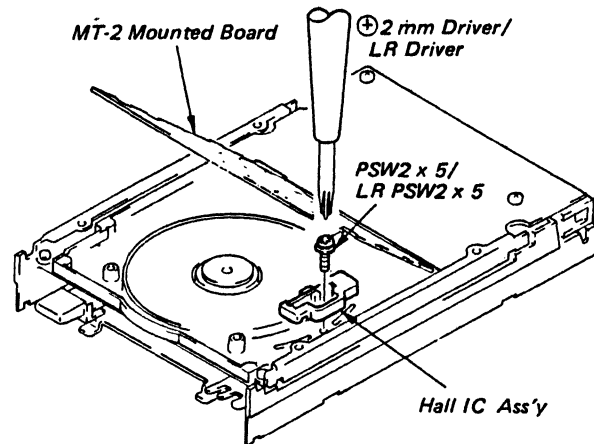

Fig. 4-5 Hall IC Ass'y Replacement
- c. Remove the screw (PSW2x5/LR PSW2x5) securing the Hall IC Ass'y and then remove the Hall IC Ass'y. (Refer to Fig. 4-5)